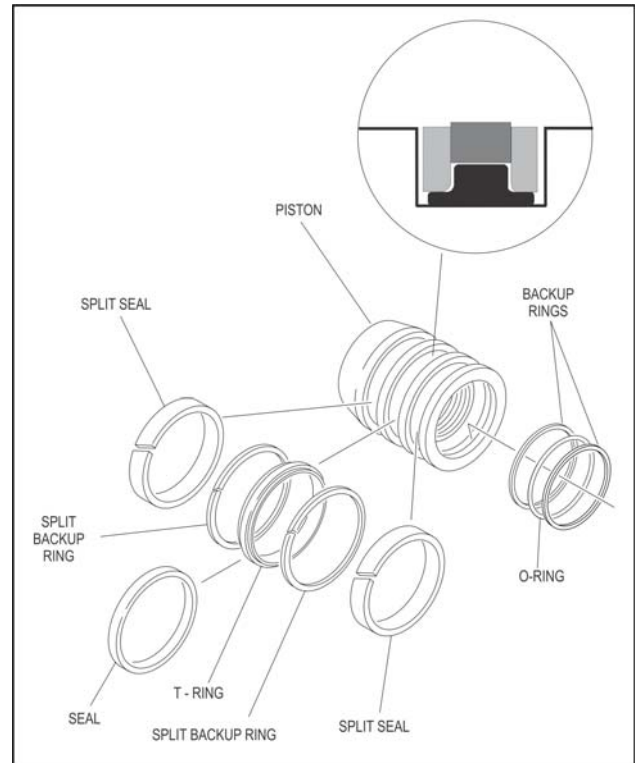

Figure 5-18. Piston Seal Kit Installation
NOTE: The backup rings for the solid seal have a radius on one side. This side faces the solid seal. (See magnified insert in Figure 5-18.) The split of seals and backup rings are to be positioned so as not to be in alignment with each other.
16. Place new guide locks and seals in the applicable outside diameter grooves of the cylinder piston. (See Figure 5-18., Piston Seal Kit Installation)